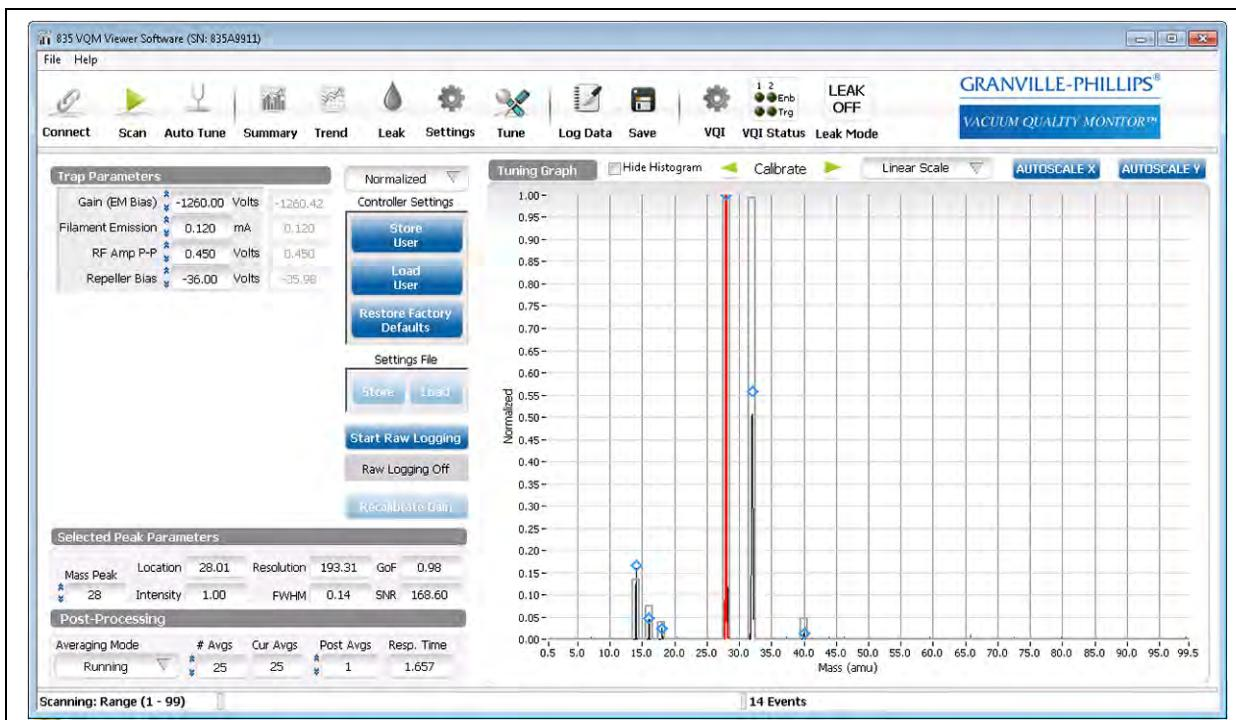

Figure 8-6 **Tune Screen**
9. Access the Tune screen display of the VQM Viewer Software and select the Normalized view. See Figure 8-6.